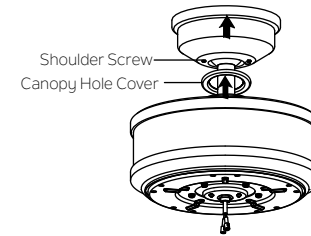

Fig. 16
**Step 3.** Securely attach and tighten the canopy hole cover over the shoulder screws in the mounting bracket utilizing the keyslot twist-lock feature. (Fig. 16)